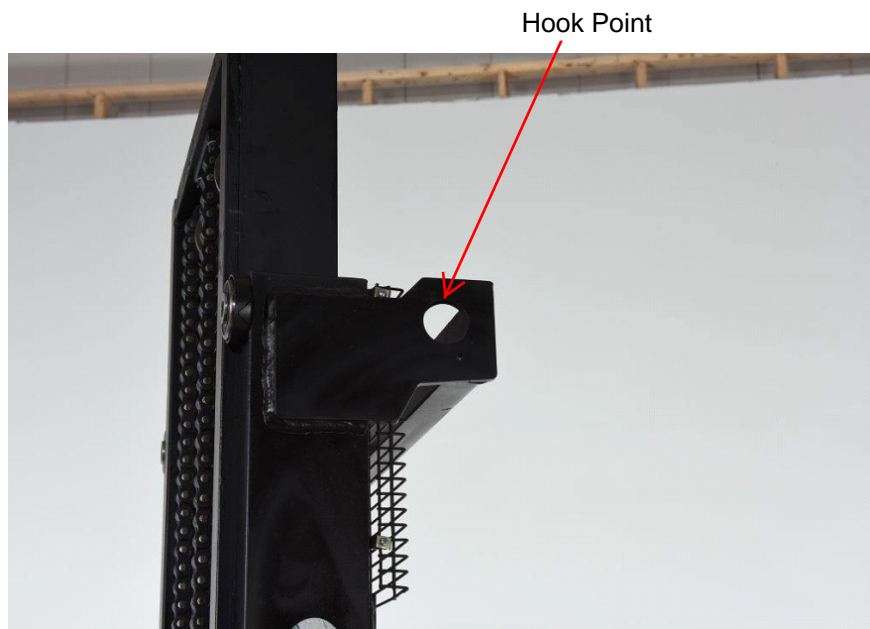

FIG. 1: Function Controls, Gauges, and Safety Features
7. Test the horn (see Fig. 1, p. 5).